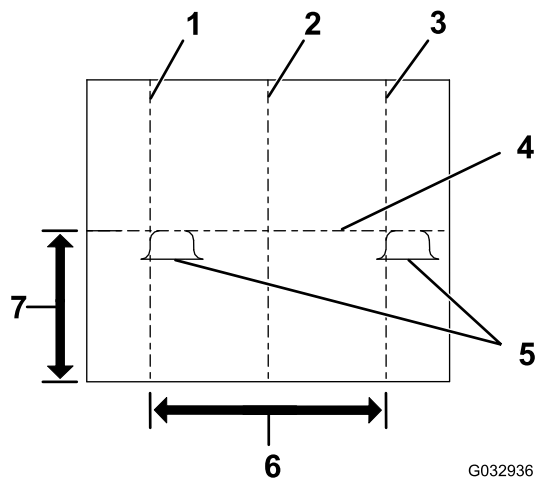

Figure 31
4. Mark the vertical vehicle centerline on the screen (Figure 31).
5. Mark the vertical headlight centerline on the screen (Figure 31).
6. Mark the horizontal headlight centerline on the screen (Figure 31).
7. Adjust the plow headlights until the brightest part of the plow low-beam lights are aligned as shown in Figure 31.